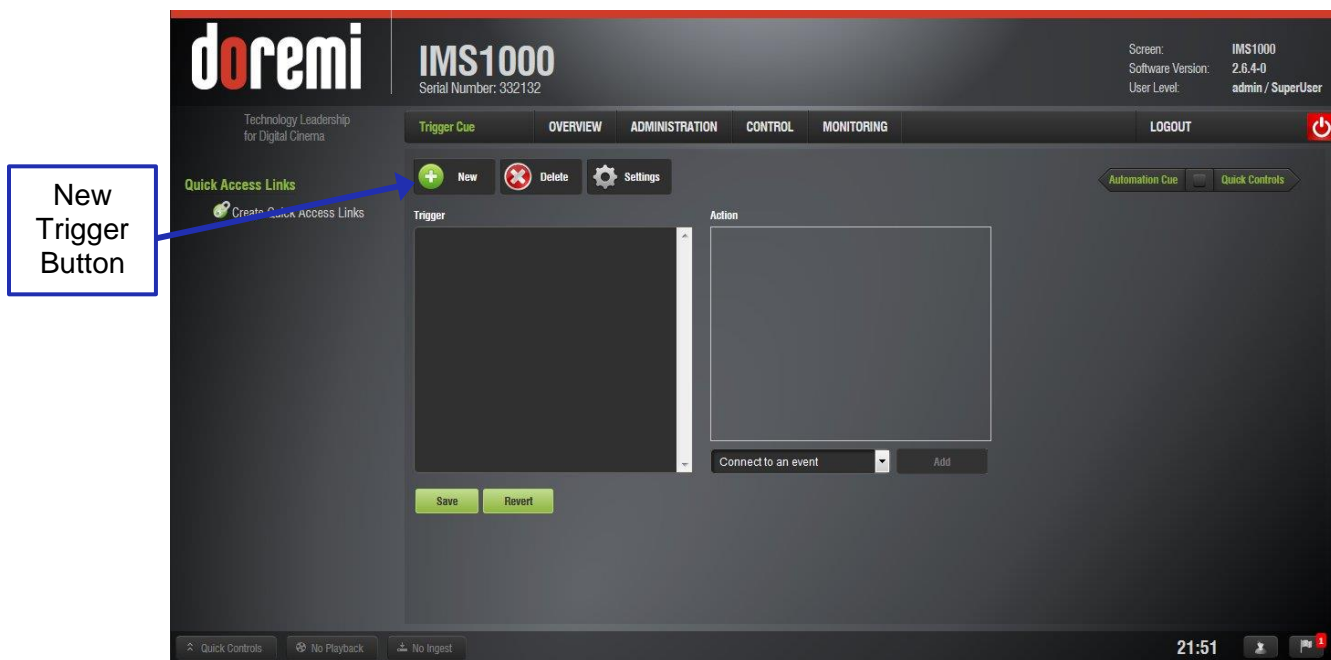

Figure 147: Macro Editor - Trigger Cue Tab
The Trigger Cue tab is located under Administration → Macro Editor → Trigger Cue (Figure 147). Alternatively, the user may also click on the green arrow button on the right side of the Automation Cue tab to access the Trigger Cue tab (Figure 146).
- To create a new Trigger Cue, click the New Trigger button (Figure 147).